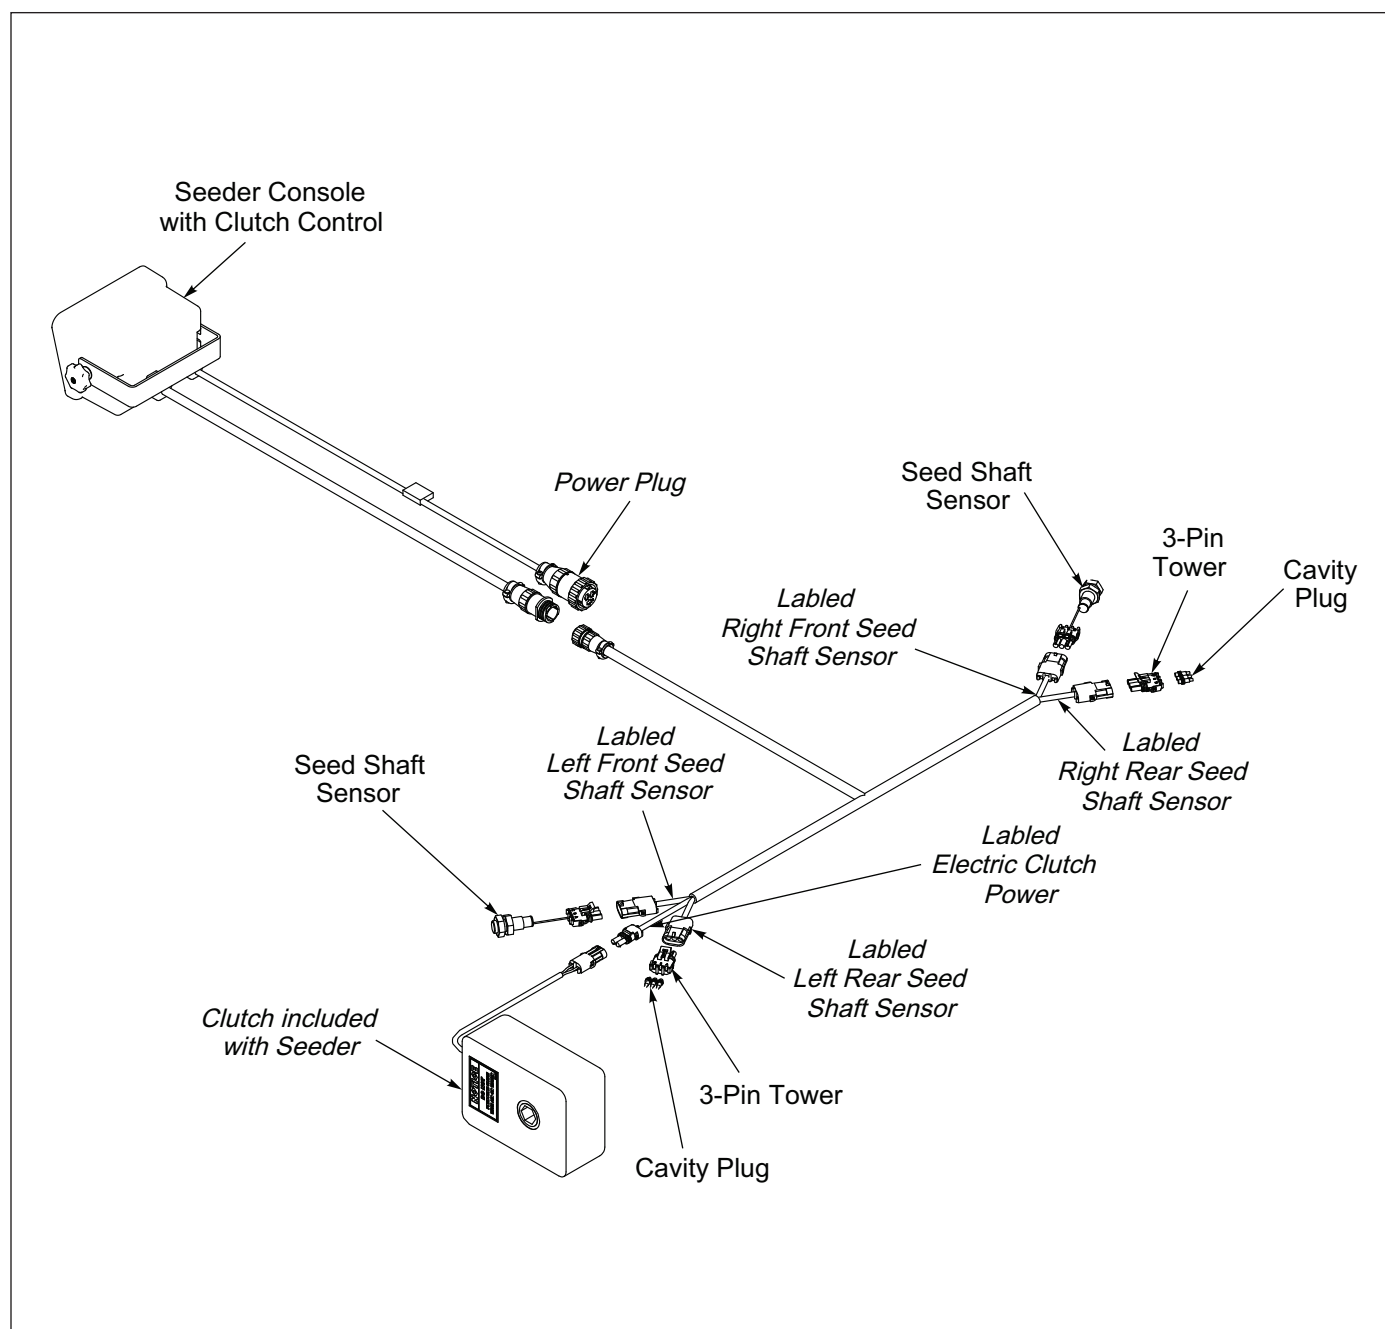

Figure 2-38: Console w/Clutch Control Electric Schematic
5. On left side connect plug labeled "Electric Clutch Power" to the Electric Clutch lead. **See Figure 2-38.**